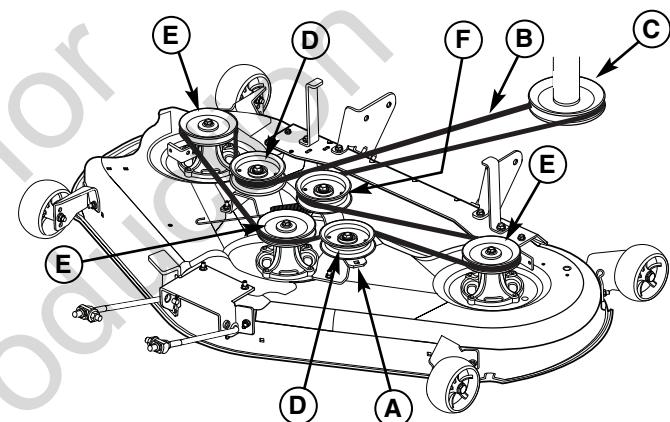

Figure 40. Mower Belt Routing
3. Insert ratchet into $3/8\text{``}$ (9.5 mm) square hole in idler pulley arm (A, Figure 40) and pull to release belt tension.
4. Remove the mower drive belt (B) from the engine drive pulley (C).
6. Install the new mower belt as shown in Figure 40.